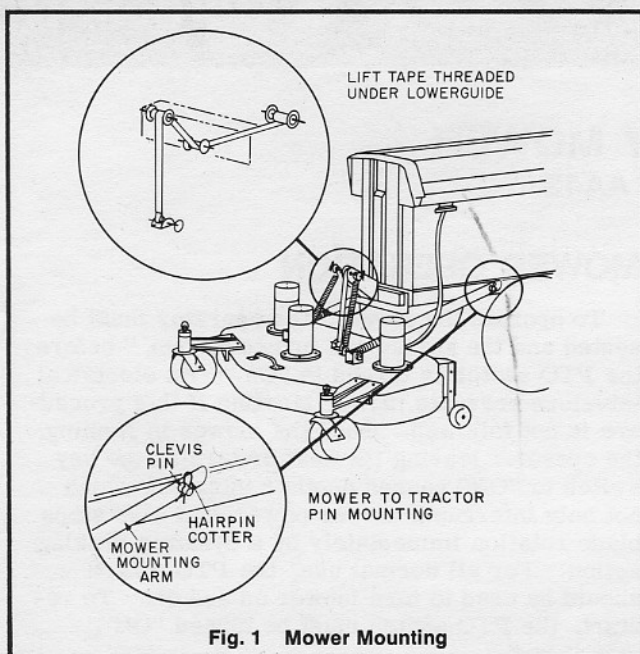

Fig. 1 Mower Mounting
To attach the mower, refer to Figure 1 and take the following steps:
2. Secure the mounting arms to the tractor frame with the clevis pins and hair-pin cotters supplied with the tractor (see insert Figure 1).
3. Thread lift tape under the lower guide and over the front guide as shown in the insert Fig. 1. Attach to mower lift clevis.